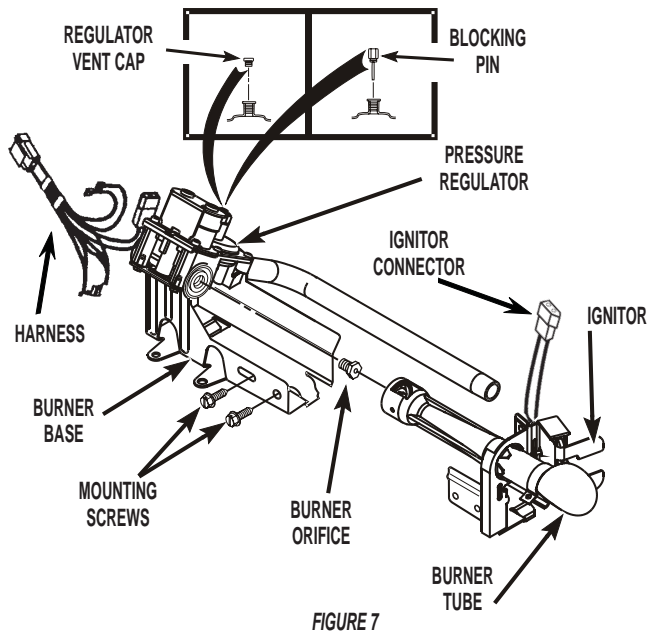

FIGURE 7
- Remove the burner orifice from the valve and replace it with the proper orifice furnished in this kit. Orifice number is stamped on the edge of the hex head of orifice. Firmly tighten. See *Figure 7*.
- Attach the burner tube back on the burner assembly. Firmly tighten the two (2) mounting screws. Reconnect the ignitor to the harness. See *Figure 7*.
- Remove the regulator vent cap (leak limiting device) from the pressure regulator. See *Figure 7*.
- Install new blocking pin finger-tight. Do not tighten more than 1/8 turn to seal it. See *Figure 7*.
- Check to be sure the regulator vent cap has been replaced by the blocking pin as in *Figure 7*.